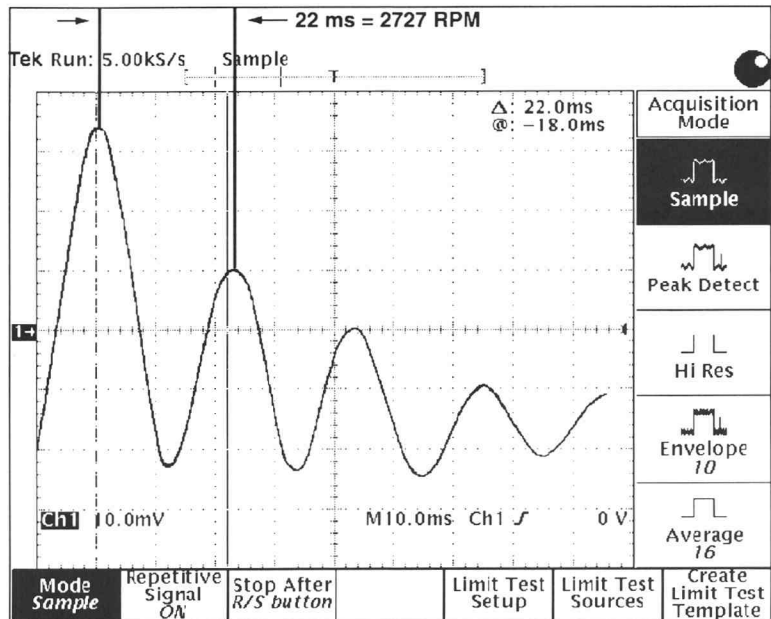

Figure 6.
- (1) Increase the speed from rest until the measured displacement shows a marked increase in amplitude. At resonance the amplitudes of the two transducer signals will be at maximum and will have shifted phase by 90° compared with the rotational marker.
- (2) Because many rotating devices run at a fixed speed, it may not be possible to use method 1. A convenient way to determine resonance is to bump- or push-release the bearings, and store the damped waveform (Figure 6).